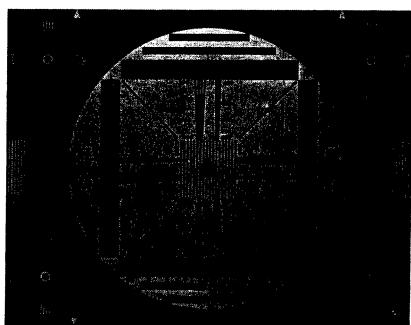

Fig. 1-1
- Resolution Chart (Part No.: YWV1400RB99) as shown in Fig. 1-1.